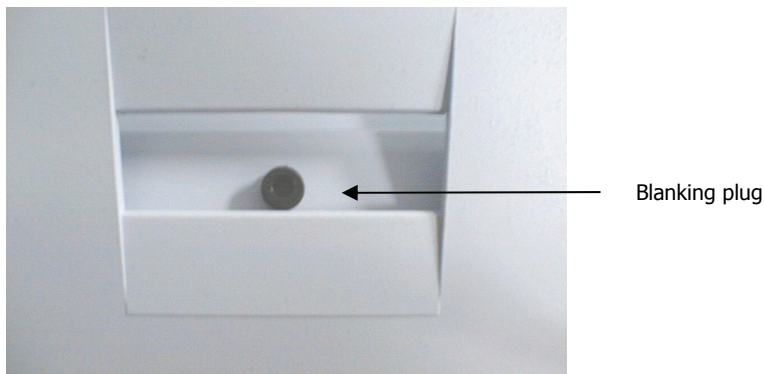

Figure 23 The blanking plug
3. Remove the blanking plug from the LS 45 sample area door, as shown in Figure 23.